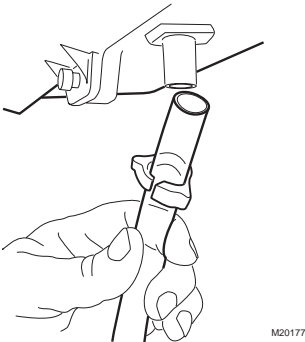

Fig. 10. Installing the drain tubing.
4. Connect a 1/2 in. (13 mm) drain tube to the humidifier drain fitting and run to the floor drain (see Fig. 10).